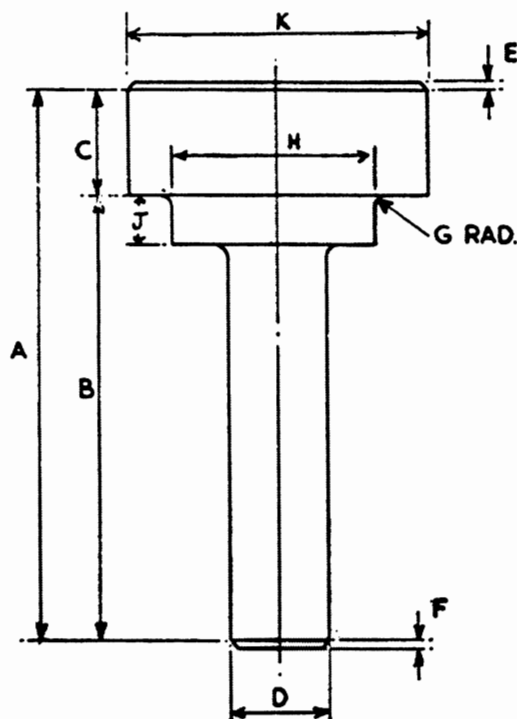

Fig. F11
4. Using a tool made to the dimensions given in fig. F11 and again by the use of the valve guide bore as a pilot, press in the insert. A hammer or lubrication must not be used.